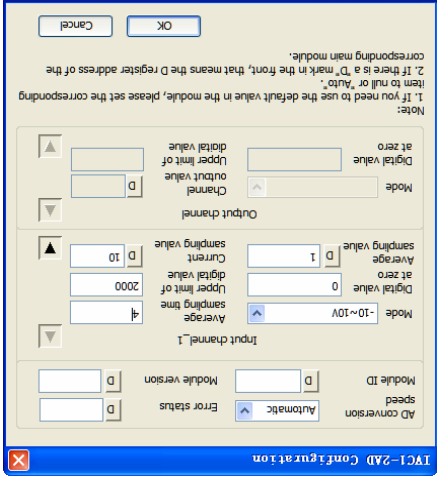

Figure 4-2 CH1 setting interface
- BFM#4094: module software version, displayed automatically as **Module Version in IVC1-2AD Configuration** dialogue box of the host software, as shown in Figure 4-2.